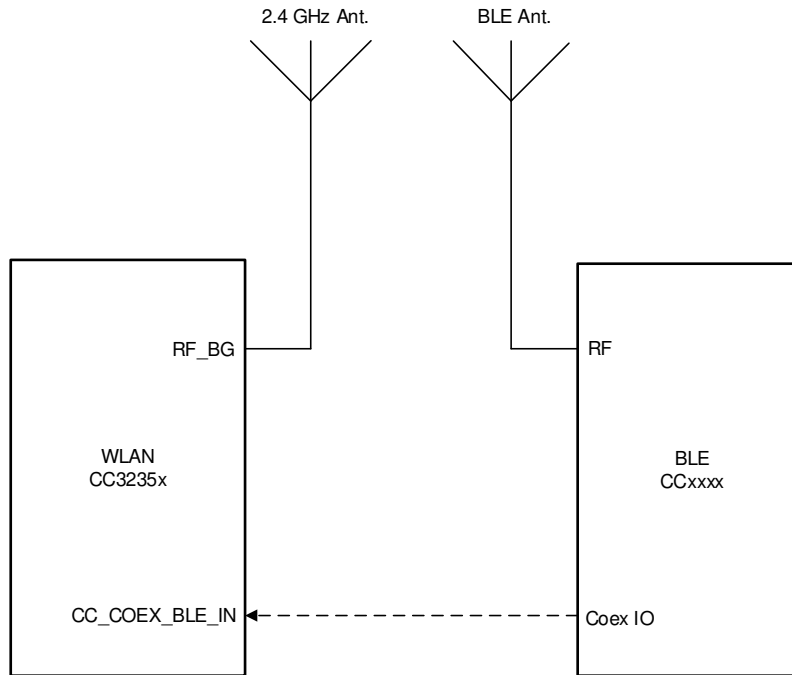

Figure 10-3. Dual-Antenna Coexistence Mode Block Diagram
- 2.4 GHz Wi-Fi Band (see 图 10-3)
Figure 10-3 shows the dual antenna implementation of a complete Bluetooth® low energy and WLAN coexistence network with the WLAN operating on either a 2.4- or a 5 GHz band. Note in this implementation no Coex switch is required and only a single GPIO from the BLE device to the CC3235x device is required.